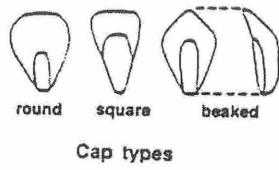

Figure 3
- 3: Kernel Shape – is one of four letters – R = round, S = square, B = Beaked, and N = not determined (diagramed in Figure 3). Do not determine the shape of the end of the kernel is not present or damaged to the point it is not possible to determine the original shape.